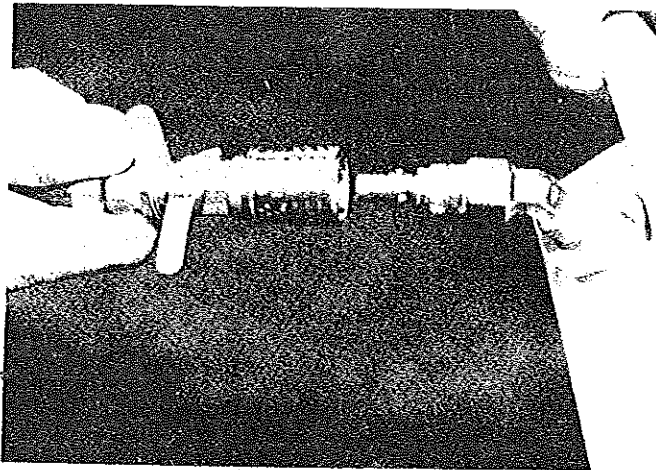

FIGURE 28
32. With the stove valve in the off position engage the gas disconnect to the stove assembly and open the gas valve. See Figure 28, 28A and 28B.
3. Disconnect the gas supply line by first turning the gas shut off valve to the "OFF" position. See Figure 28.
9. With the valve in the "OFF" position, engage the gas disconnect on to the stove module and open the gas valve. See Figure 28.